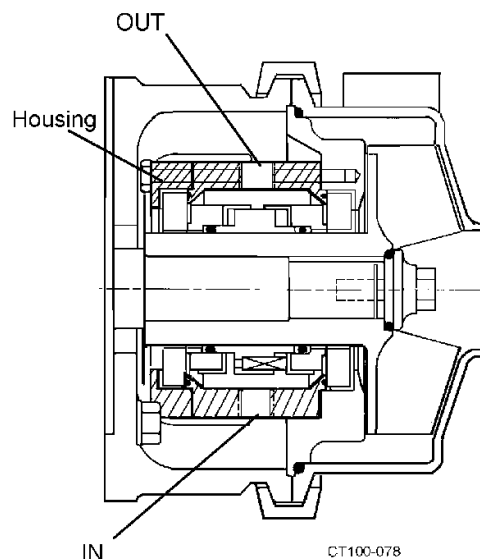

**Figure 8 - Cascade System Installation**
When this option is ordered, a fitting assembly (Part Number 60112) (Figure 8, item B) is supplied for directing a flow of water onto the backplate/seal area.
- The water cascade block (Figure 8, item A) must be above the seal on the assembled backplate to flow water onto the seal face.